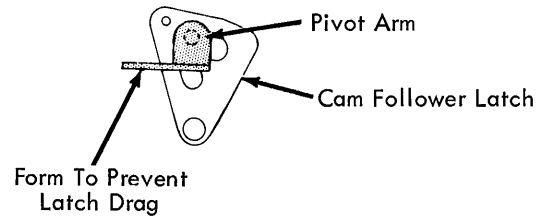

FIGURE 274. Pivot Arm
4. Pivot Arm (Fig. 274) - With the manual ribbon lift lever in the black position, form the pivot arm extension (up or down) so that the latch does not drag when moved from the latched to the unlatched position.